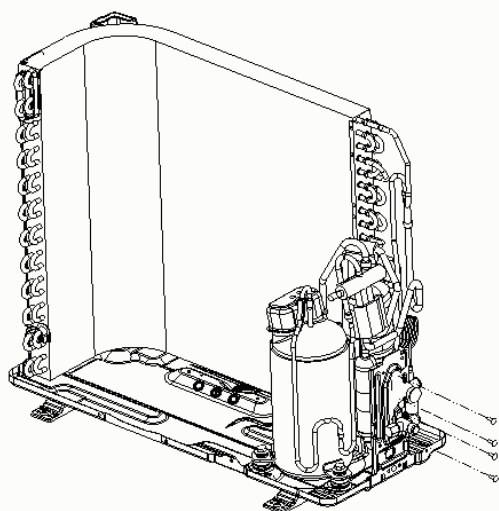

Fig. 64
- (1) Solder off the welding spot of capillary, valve and outlet pipe of heatexchanger.
- (2) Remove the 2 screws fixing the wide tube valve. (Fig.64)